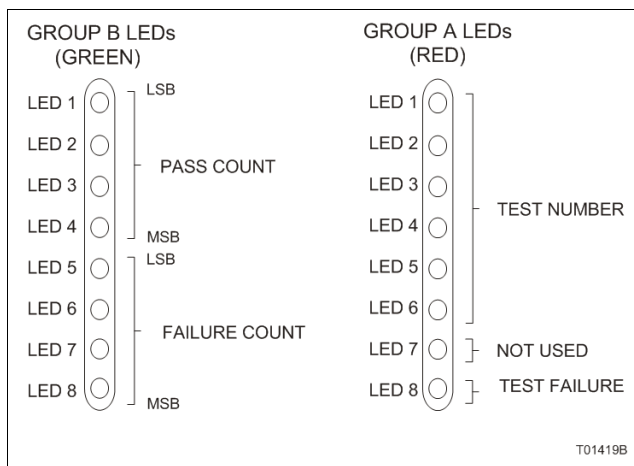

Figure PR14-1. Diagnostic Test LED Indications
Test Number The test number display mode uses Group A (red) LEDs to display the diagnostic test number and LED eight to display whether the test passed or failed (Fig. PR14-1). If a diagnostic test is successful, Group A (red) LEDs display the diagnostic test number and LED eight remains off. If a diagnostic test is not successful, Group A (red) LEDs still display the diagnostic test number but LED eight will turn on. LED seven is not used in test number display mode.
Pass/Fail Count The pass/fail display mode uses Group B (green) LEDs to display a combination of incrementing pass and fail counters (Fig. PR14-1). LEDs one through four display a binary count of the number of passed tests and LEDs five through eight display the number of failed tests.
- Disabled** If halt on error is disabled, the selected test runs repeatedly until the module is removed. Group A (red) LEDs displays the test number and Group B (green) LEDs displays the pass count and failure count (Fig. PR14-1).